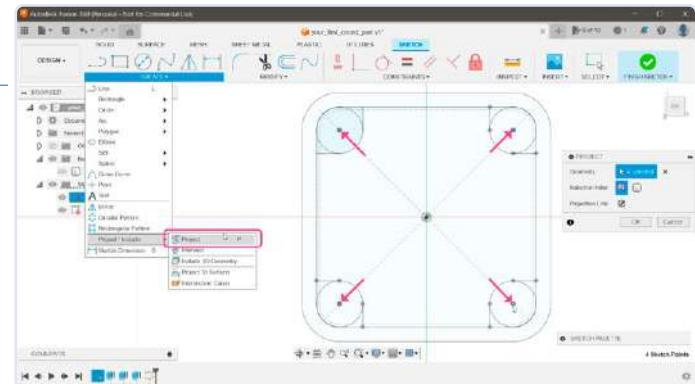

Figure 14: Replicating the operation for the other three corners.
14) To copy those points on our new sketch, select *CREATE* → *Project/Include* → *Project* (**Figure 14**). Click on all four points and confirm using the OK button. If you rotate the 3D view, those new points are now hovering over the original sketch.